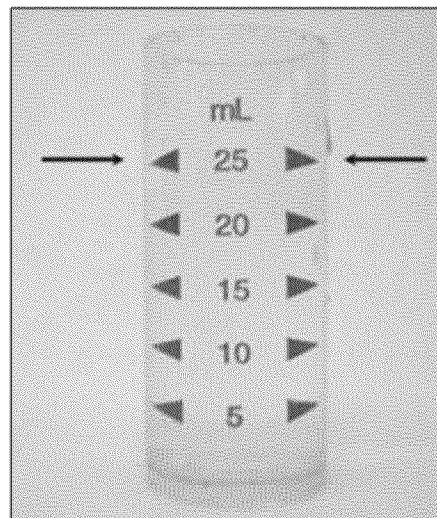

Figure 12. 25mL Mark on the Sample Cup
- a Fill the test kit sample cup to the 25 mL mark with the sample to be tested as shown in Figure 12.